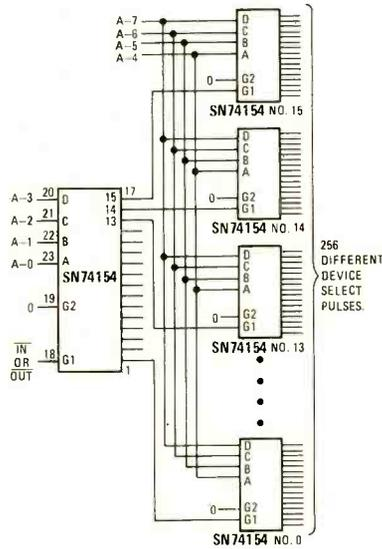
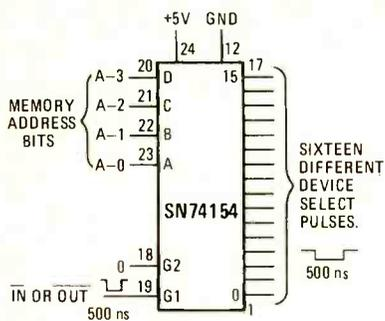

FIG. 1
FIG. 2
The second 8-bit byte, XXXXXXXX2, in the 16-bit OUT instruction is the *device code* for the output device. A total of  $256_{10}$  different devices can be addressed with such a code. How this is done is shown in full detail in Fig. 1, a device decoding circuit of seventeen SN74154 IC's. Since this is a rather complicated circuit, let us first discuss the simpler decoding circuit of Fig. 2.
This 8-bit device code is connected directly to one or a group of SN74L154 IC's, as is shown in Figs. 1 and 2. In Fig. 2, only four of the eight bits are used, whereas in Fig. 1, all
3. These nine output lines (A-0 to  $\overline{\text{OUT}}$ ) are used as inputs to the seventeen SN74154 IC's shown in Fig. 1. This circuit generates a 500-ns negative device-select pulse for device  $321_8$ . All the remaining  $255_{10}$  outputs from the decoders remain at logic 1 during this time.